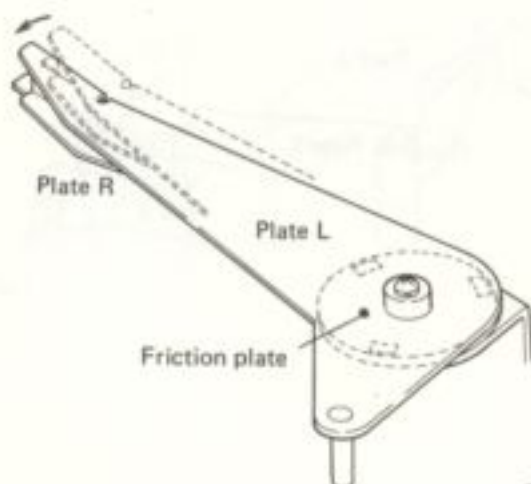

Fig. 21
8. Since gear B continues to rotate, plate S moves in the direction opposite to that of Step 6. Movement of the friction plate between plates R and L causes plate L to also move (Fig. 21).